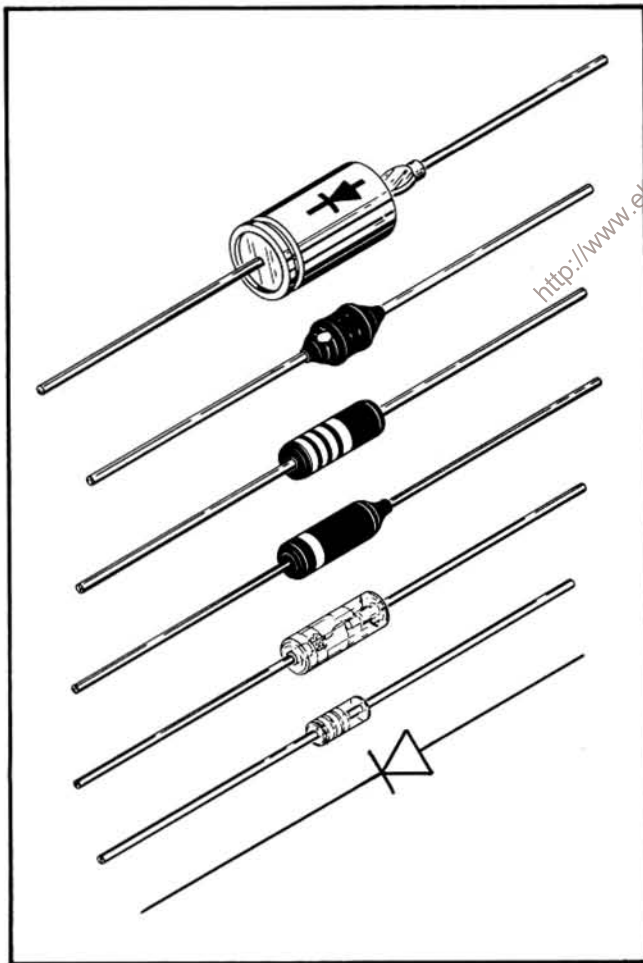

Fig. 6-2. Diode polarity markings.
**Diode Color Code.** The cathode of each glass encased diode is indicated by a stripe, a series of stripes or a dot. Fig. 6-2 illustrates diode types and polarity markings that are used in this instrument.